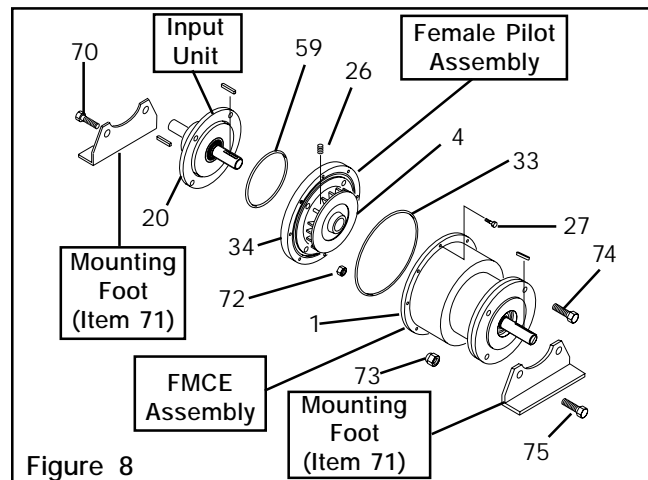

Figure 8
1. Remove the eight Hex. Head Cap Screws (Item 27); then, separate the Female Pilot (Item 34) and Drive Disc (Item 4) from the FMCE Assembly (See Figure 8).
2. Coat the O-ring Seal (Item 59) and the seal contact surface of the Input Unit with a film of O-ring lubricant, then wipe off any excess lubricant (See Figure 8).
3. Place the O-ring Seal (Item 59) into the seal groove of the Input Unit Bearing Flange (See Figure 8).
4. Slide the Female Pilot Assembly onto the Input Unit shaft (See Figure 8).
5. Using two 0.375-16 x 1.500" Hex. Head Cap Screws (Item 70) and Hex. Nuts (Item 72), secure one optional Mounting Foot (Item 71) to the Female Pilot Assembly and Input Unit (See Figure 8).
6. Using two 0.375-16 x 1.250" Hex. Head Cap Screws (Item 74) and Hex. Nuts (Item 72), secure Input Unit to Female Pilot Assembly using two remaining holes (See Figure 8).
8. Tighten the Set Screw (Item 26) to lock the Drive Disc (Item 4) onto the Input Unit shaft (See Figure 8).
9. Coat the O-ring Seal (Item 33) and the seal contact surface with a film of O-ring lubricant, then wipe off any excess lubricant (See Figure 8).
10. Slide the O-ring Seal (Item 33) into the seal diameter of the Female Pilot Assembly (Item 34) (See Figure 8).
11. Slide the FMCE Assembly onto the Female Pilot Assembly (See Figure 8).
12. Using eight 0.250-20 x 0.875" Hex. Head Cap Screws (Item 27), secure the FMCE Assembly to the Female Pilot Assembly (See Figure 8).
13. Alternately and evenly tighten the eight Hex. Head Cap Screws (Item 27) to 49 In. Lbs. [5.5 Nm] torque (See Figure 8).
14. Using two 0.375-16 x 1.375" Hex. Head Cap Screws (Item 75) and Acorn Nuts (Item 73), secure one optional Mounting Foot (Item 71) to the Male Pilot end of the FMCE Assembly (See Figure 8).